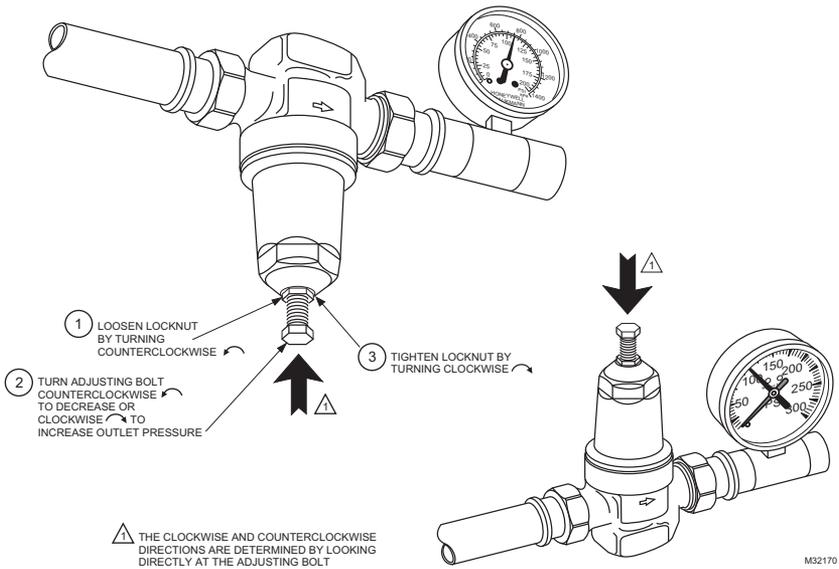

Fig. 1. Changing outlet pressure.
**Dimensions:** See Fig. 1.
### Changing the Outlet Pressure (See Fig. 1)